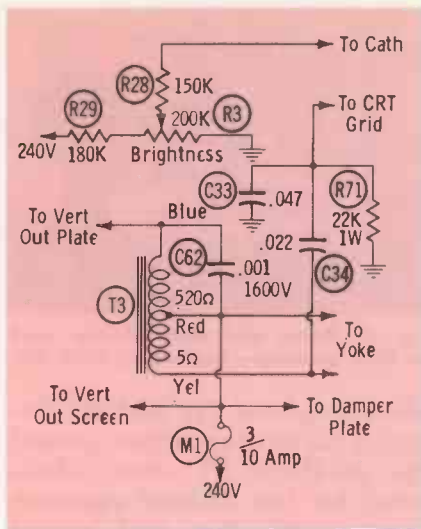

Fig. 3. Circuit containing retrace blanking network used in an RCA portable.
The "Photofact" schematic in Fig. 3 shows that R71, C33, and C34 are all a part of the vertical retrace blanking network. A nega-
A more elaborate RF-AGC control circuit is used in the Packard-Bell Chassis V8-2. AGC voltage for the tuner is taken from the arm of a potentiometer that is a part of a voltage divider connected between sources of both negative and positive potential. (See Fig. 3.) The voltage present at the RF take-off point depends on two factors: (1) The position